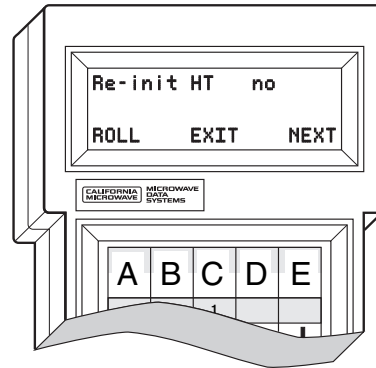

Figure 9. HHT Setup Display
1. Plug the HHT into the DATA INTERFACE connector. Enable the setup mode by pressing the **SHIFT**, **CTRL** and **SPACE** keys in sequence. The display shown in Figure 9 appears.